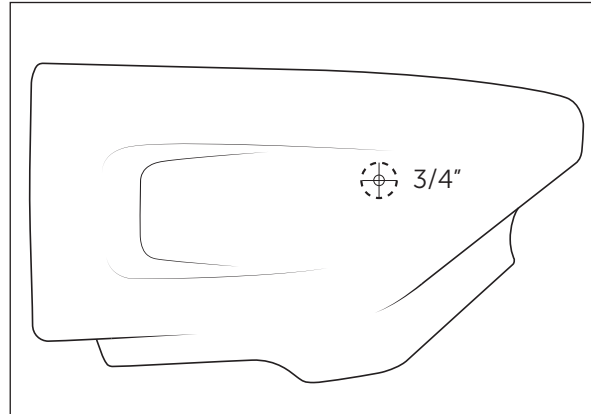

Figure 6
1. In each corner tank, use molded-in dimple as center point and carefully drill out to 3/4" diameter hole. Be sure to only drill through the outer layer. Suggest drilling in graduated sizes to help ensure it stays centered (fig. 6).